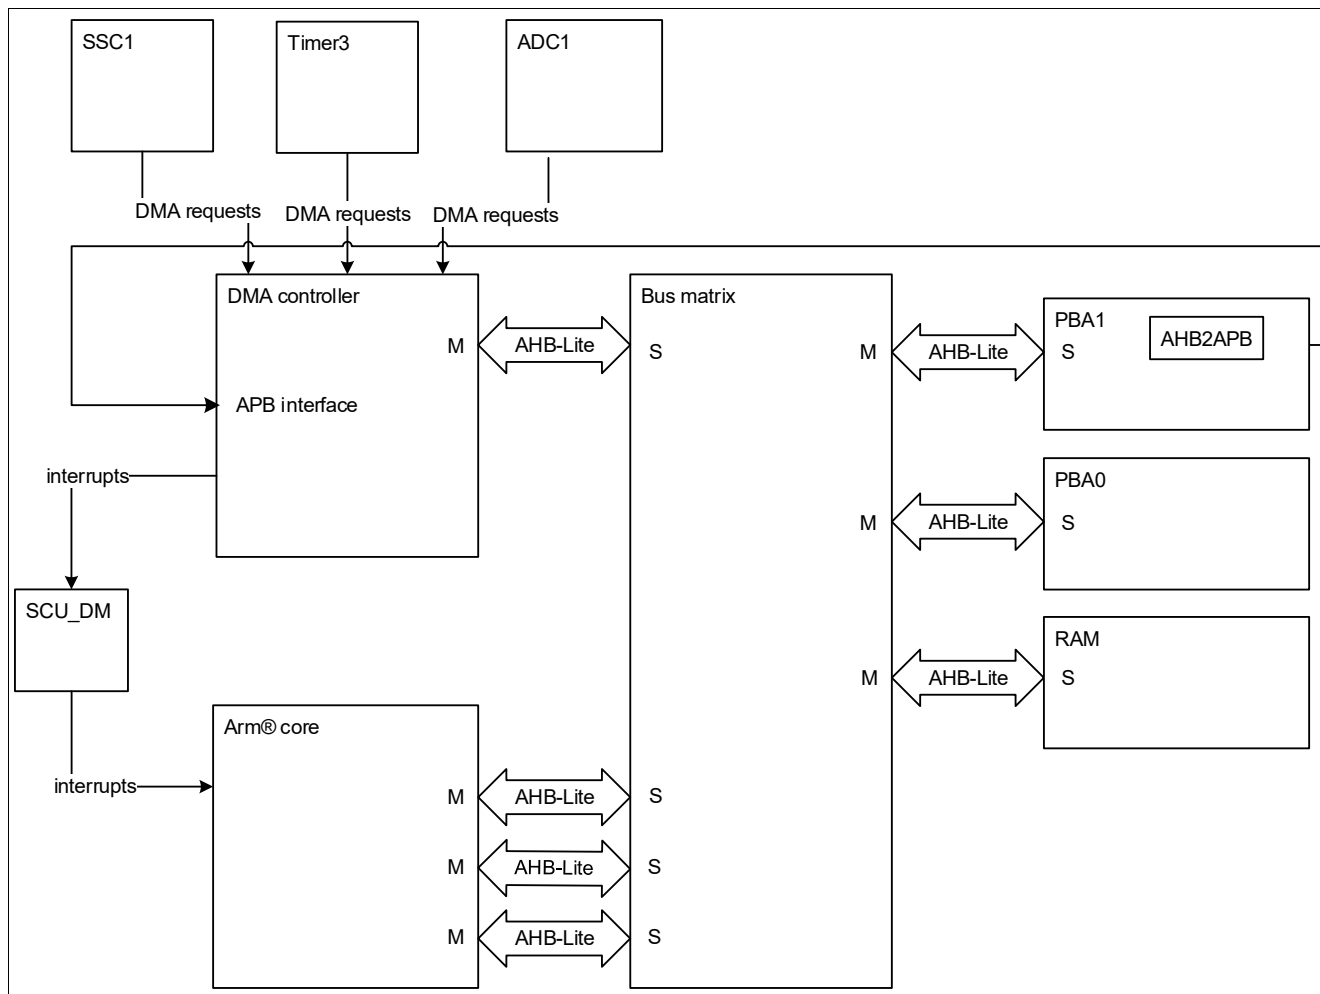

Figure 12 DMA controller top level block diagram
**Figure 12** shows the top level block diagram of the TLE9867QXA40.